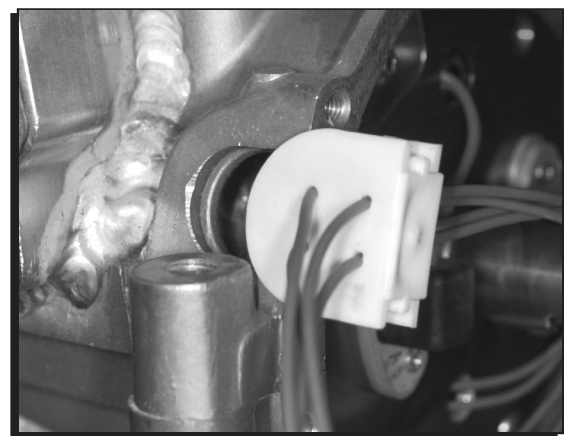

Figure 4 Installing Grommet.
2. Slide the Green trigger pickup wires through the grommet. Install the grommet with wires attached in the case and secure in place using the stock mounting hardware. Place a small amount of silicone sealer around the wires where they enter the grommet (Figure 4).